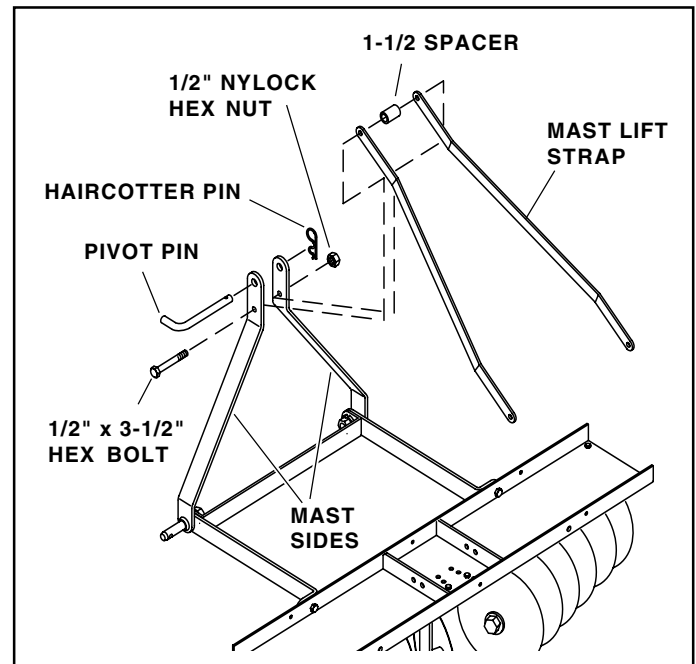

FIGURE 4
- Install a pivot pin through the holes in the ends of the mast sides and secure the pin using the haircotter pin. See figure 4.
- Arrange the mast lift straps as shown in figure 4. Assemble the straps and the 1-1/2" spacer between the mast sides using a 1/2" x 3-1/2" hex bolt and 1/2" Nylock hex nut. **Do not tighten yet.**